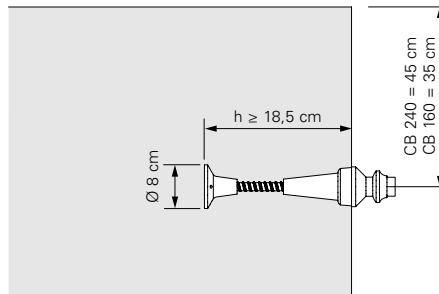

Fig. B1.04
4. Completely screw in and tighten Threaded Anchor Plate DW 15 (5.4) on the tie rod (5.5). (Fig. B1.04)